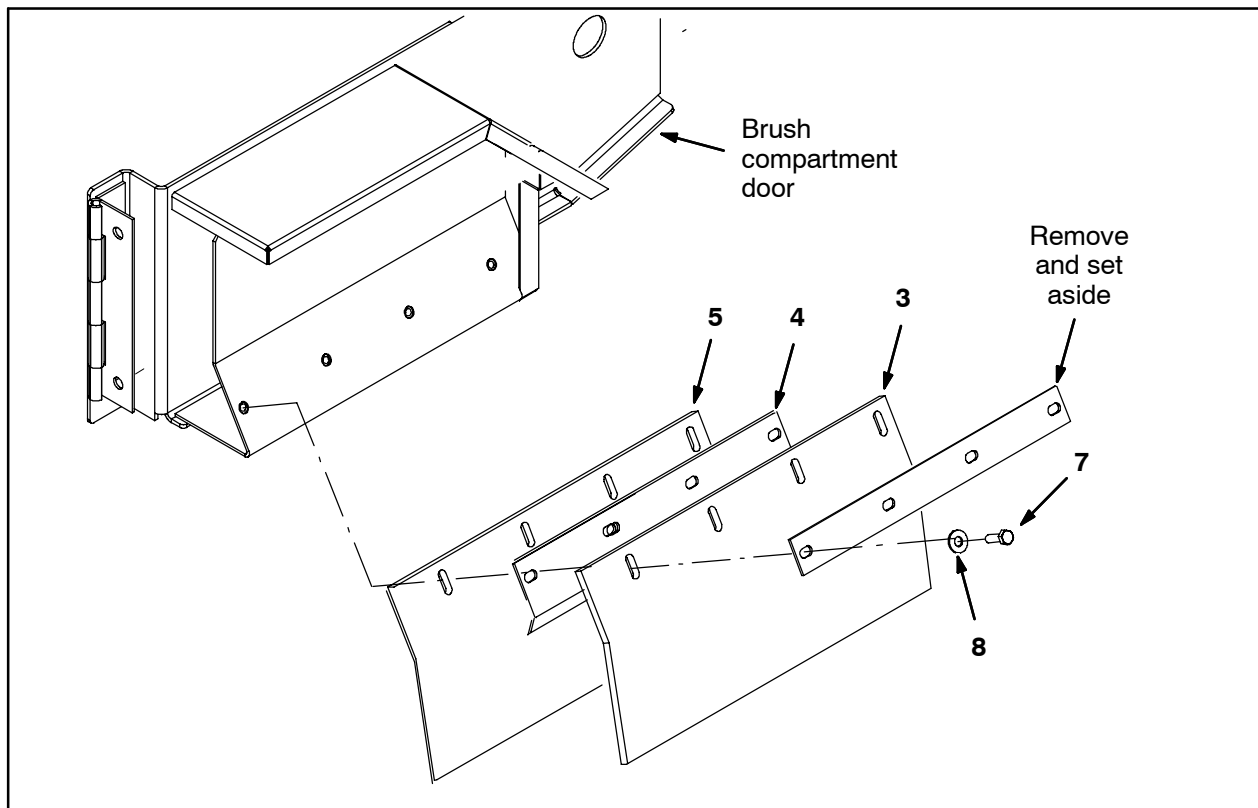

FIG. 3
9. Remove the skirts from both brush compartment side doors. Set the skirt retainers aside. Discard the skirts and the mounting hardware. Refer to Fig. 3.
10. Use four hex screws (7) and four flat washers (8) to install each saved skirt retainer, brush door skirt (3), skirt bracket (4), and brush door skirt (5) onto the brush doors. Refer to Fig. 3.